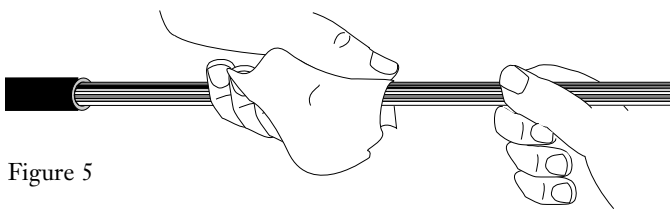

Figure 5
5.6 Use one of the D-Gel wipes supplied with the Cable End Kit to clean the cable components (Figure 5). After cleaning, dry all the cable components with a clean tissue. Be sure to remove any cleaning solution that may have migrated down the outer cable sheath.